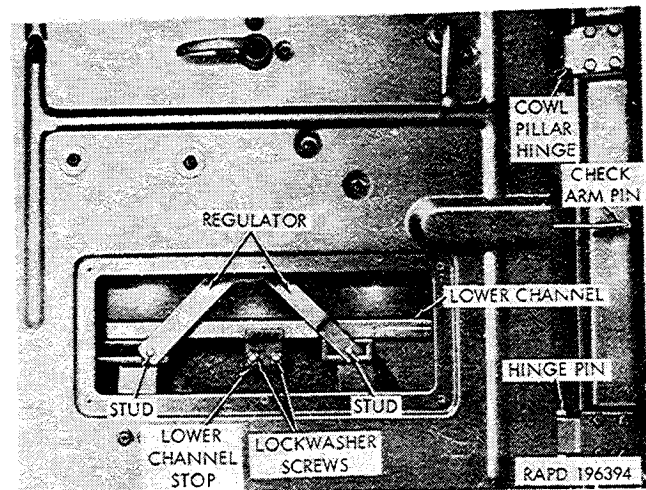

Figure 2-191. Replacing glass in driver's compartment door.
a. Removal (fig. 2-191). The glass for both doors is serviced in the same manner.